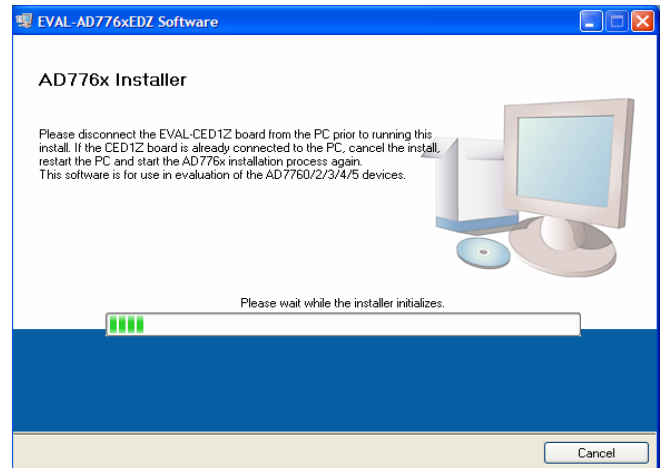

Figure 2. EVAL-AD7764/AD7765EDZ Setup Dialog Box, Initial Software Install Screen
2. The dialog box shown in Figure 2 appears.